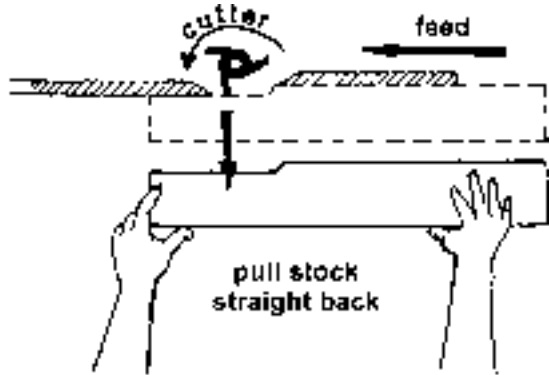

FIGURE 2
**STOCK FEED:** Feed stock opposite to the direction of the cutter rotation. Never back stock out of the cutter once the cut has been started. Instead, pull the stock straight back away from cutter and begin the cut again, Figure 2.